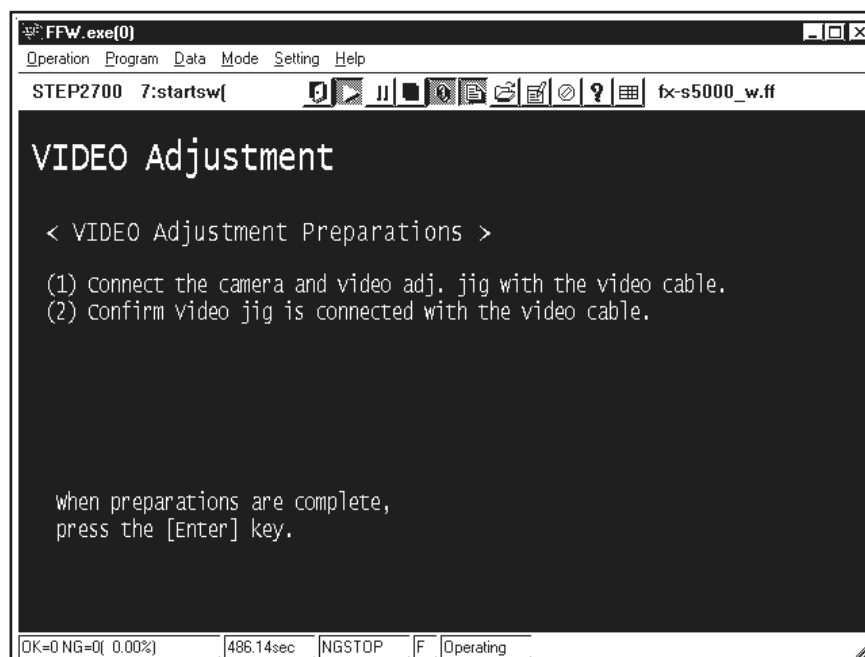

Fig.32
--->The [VIDEO Adjustment Preparation screen (Fig.32)] appears.